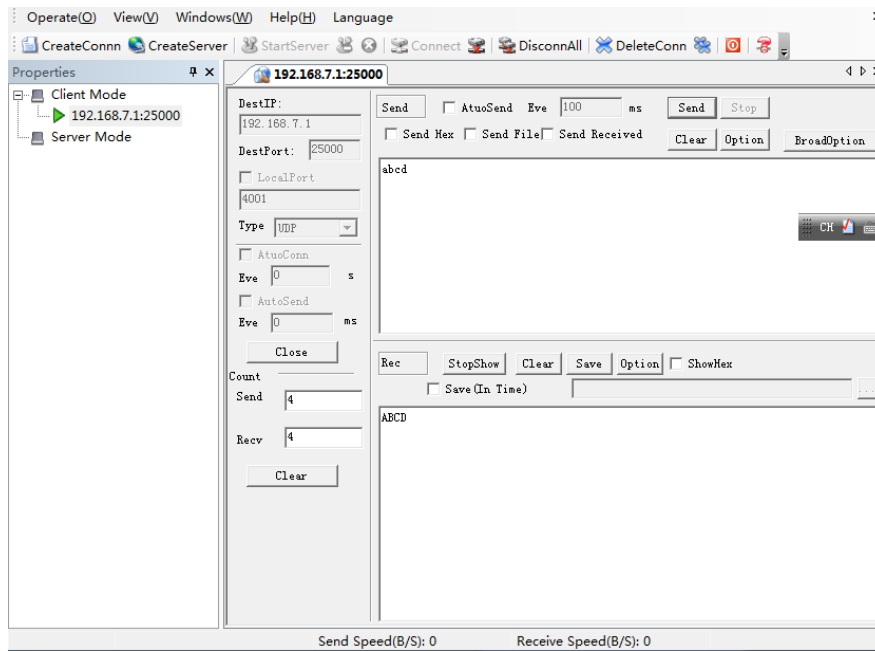

Figure 1-5 TCP/UDP Test Tool Data Sending and Receiving
5. The UDP Client sends a string to the UDP Server. In other words, send data from the test tool to the module (Figure 1-5)